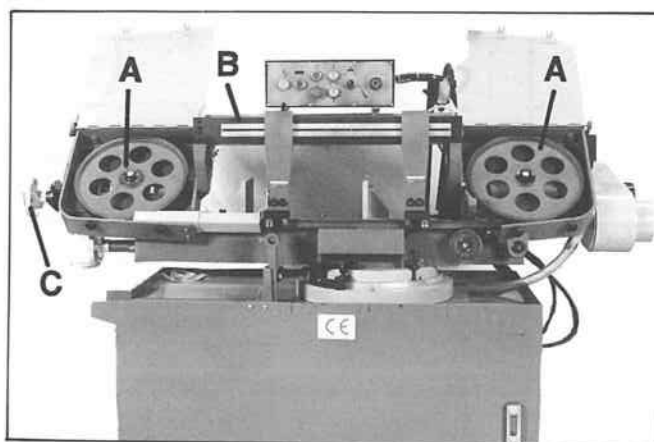

Fig 4
4. Release blade tension by turning the blade tension handwheel (C) Fig. 4 counter-clockwise.
8. Place the blade in place on the wheels (A) and through the upper blade guard. (B) Fig. 4.